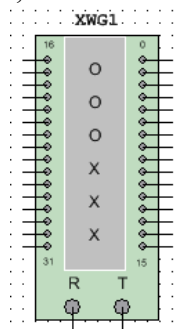

Figure 1. Word generator.
- From the instrument column, add a Word generator, as shown in Figure 1.